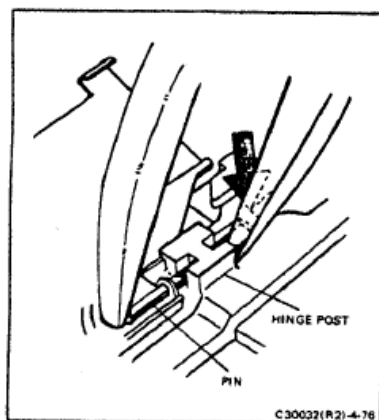

FIGURE 4-76 USING PLIERS TO INSERT LIGHT BAFFLE HINGE PIN
2. Using tweezers or needle-nose pliers, insert the end of the pins into the hinge holes from the center of the camera (Figure 4-76).
3. Install the baffle with its spring on the right-hand pin. Use pliers with one jaw on the outside of the hinge post and squeeze the pin outward until it reaches the stop (Figure 4-76).